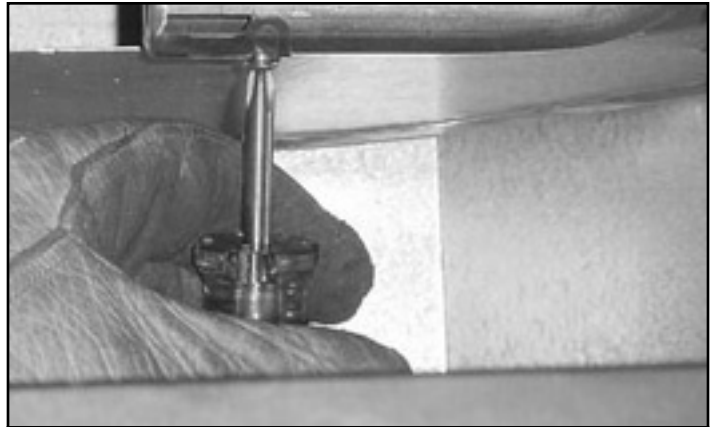

Figure 12.4 Air Shutter
This appliance has an adjustable air shutter (which controls the primary air) factory set for the minimum vertical vent run (see Figure 12.4). If your installation has more than the minimum required vertical vent length, adjustment of the air shutter may be necessary to obtain optimal flame appearance. **This should be adjusted by a qualified installer at the time of installation.**
- Locate the air shutter mounted on the end of the main burner. Loosen the locking screw, open the air shutter, and retighten the locking screw. See Figure 12.4.